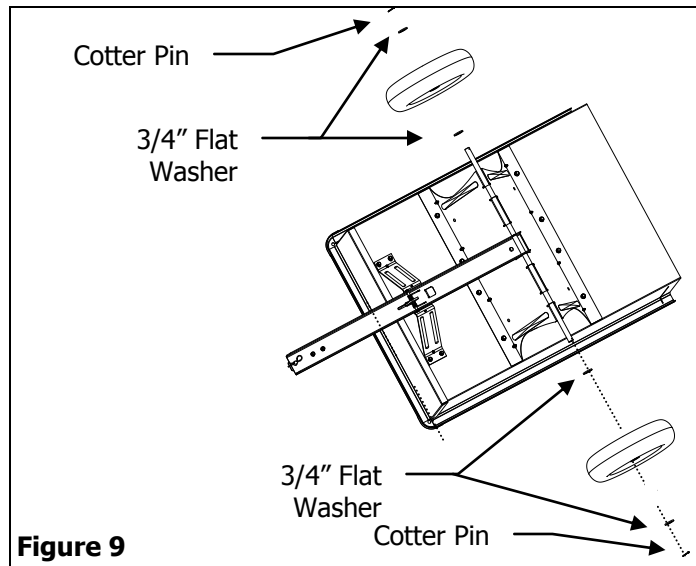

Figure 9
9. Place one 3/4" Flat Washers on each side of Axle next to Undercarriage. Next place Wheel onto Axle, add one or two 3/4" Flat Washer on outside of wheel Secure Wheel in place by inserting Cotter Pin through hole in the end of Axle and spreading the legs of the Cotter Pin outward. Repeat the Wheel attachment step for the other wheel. See Figure 9.